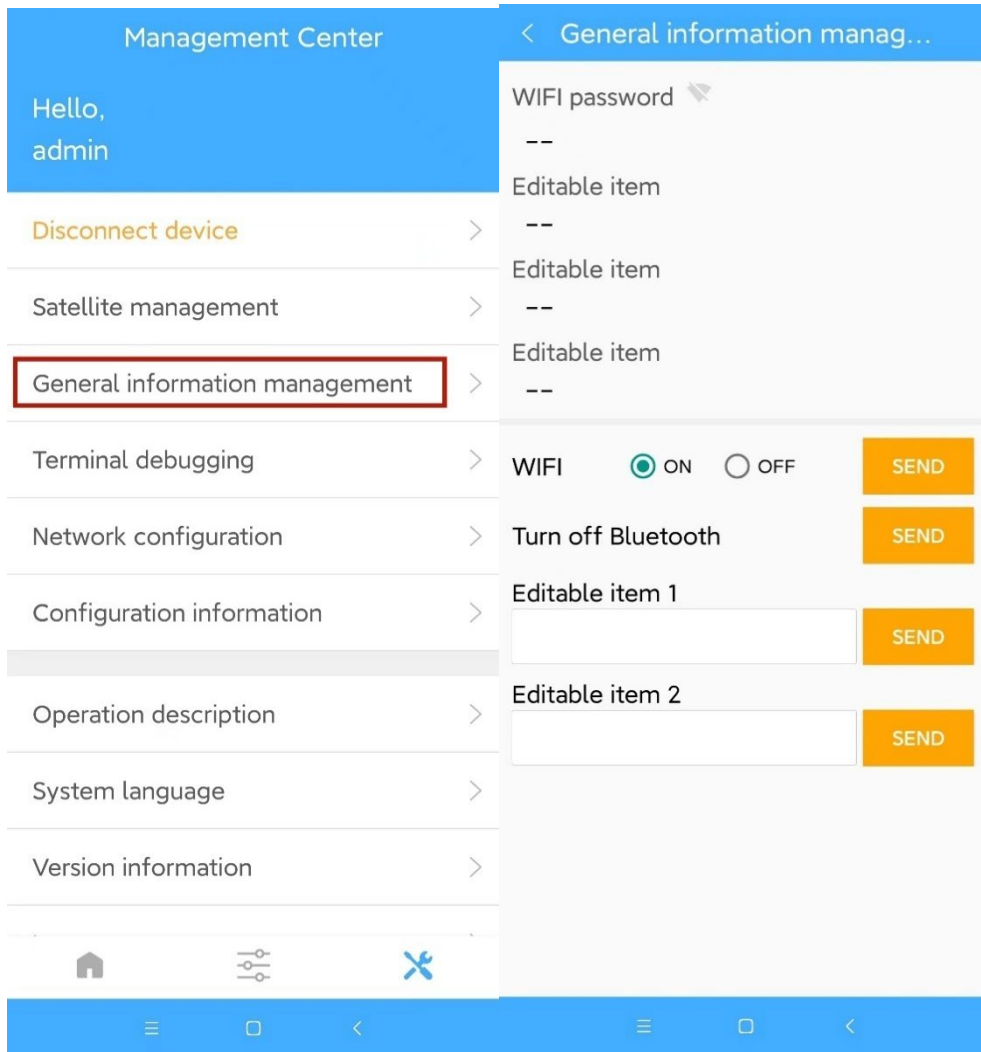

Figure 7-21
- General information management interface: On the Home screen, click the  icon in the lower navigation bar to enter the management center interface, select "General information management", as shown in Figure 7-21. WiFi can be turned on or off, Bluetooth can be turned off, LO can be set, BUC can be switched on, BUC attenuation adjustment can be performed on this interface, as shown in Figure 7-22.